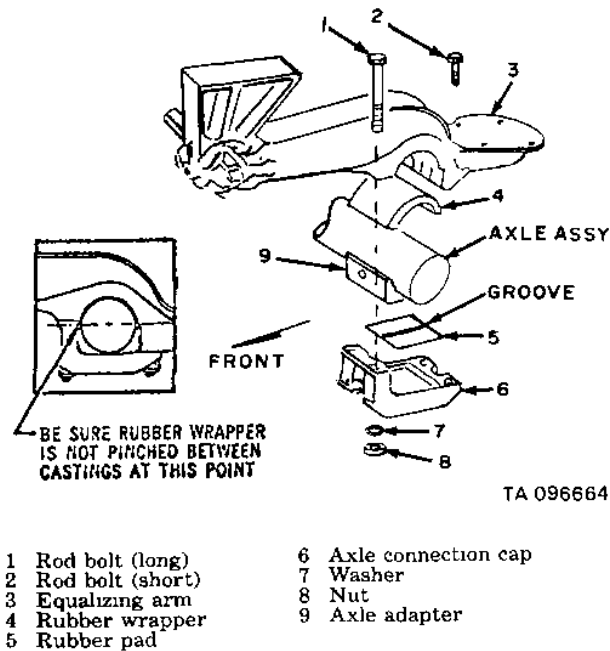

Figure 6-4. Installation of new axle.
(1) Determine centers of equalizing arm by adding 5 inches to air spring centers. Example: 30-inch air spring center plus 5 inches equals 35-inch equalizing arm center.
(2) Locate equalizing arm centers on axle.
(3) Position two axle adapters on bottom of axle at the center points located in step (2) above. Clamp adapters in place.
(4) Using a level protractor, adjust both adapters as shown above. Be sure adapters are parallel and tight against axle.
(5) Weld both adapters securely as shown above with a minimum of three passes, using welding rods AWS Spec. E-7016 or equivalent.
(6) Position tee fitting on new axle in same location as the original axle and secure with cap screw, lock washer and nut.
f. *Installation (fig. 6-4).*